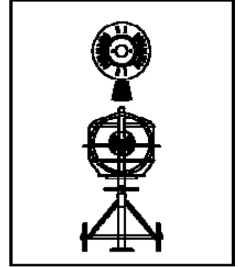

Fig.15
- Store and transport the device in the position described in Fig.15.